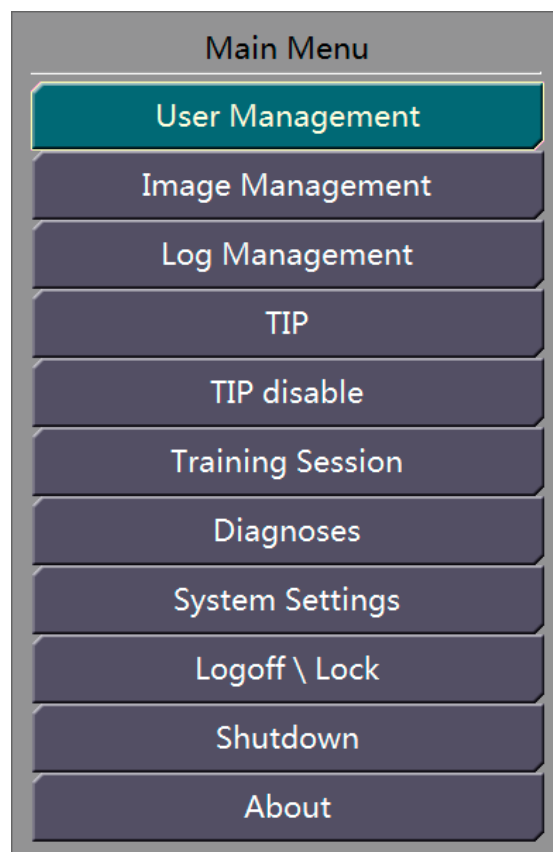

Figure 13-1 Main Menu
Step 1 Choose User Management in the main menu to display the User Management interface, as shown in Figure 13-1.